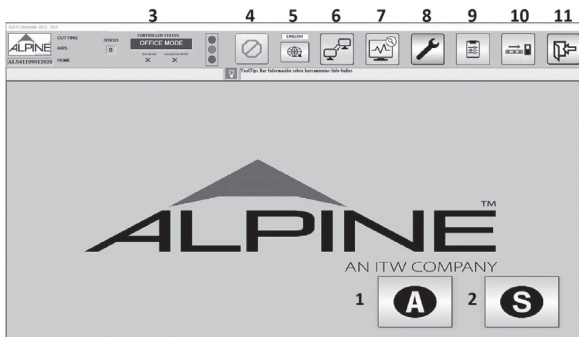

Figure 112
Step 4 – To calibrate L1/L2, select “Controller” from the task bar at the bottom of the screen (Figure 112).